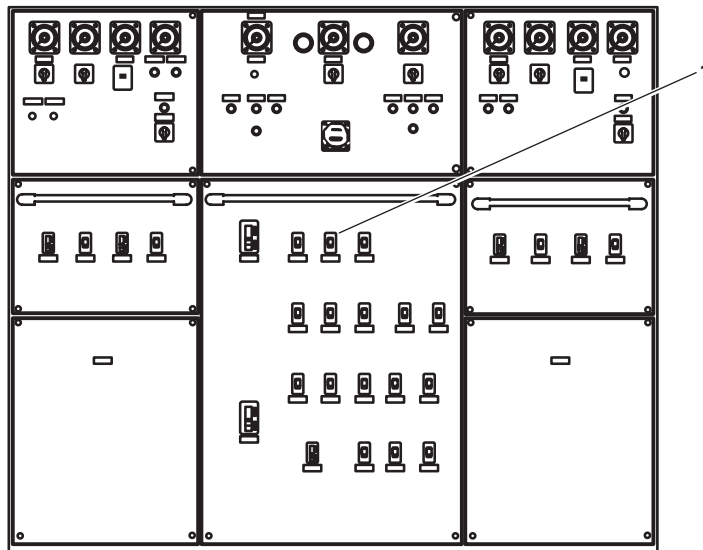

Figure 3. Main Switchboard
5. Set to OFF the CENT HYD SYS POWER UNIT NO. 1 & 2 circuit breaker (figure 3, item 1) on the main switchboard.